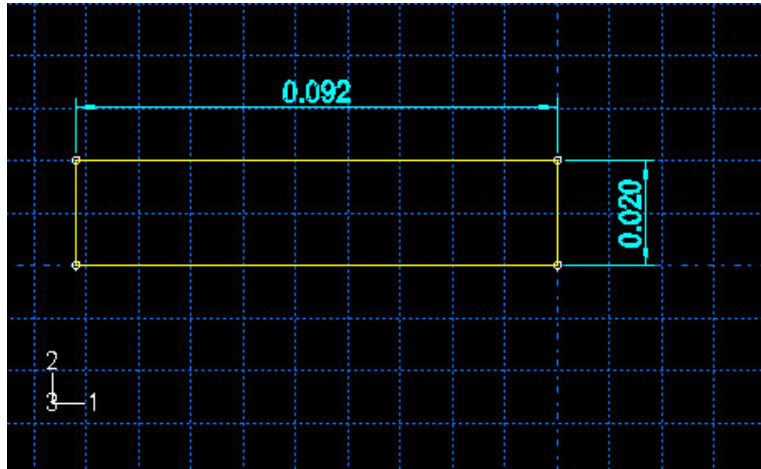

Figure W15–1 Plate geometry.
4. Using the **Create Lines: Rectangle** tool, sketch a rectangle 0.092 m long and 0.020 m high, as shown in Figure W15–1.